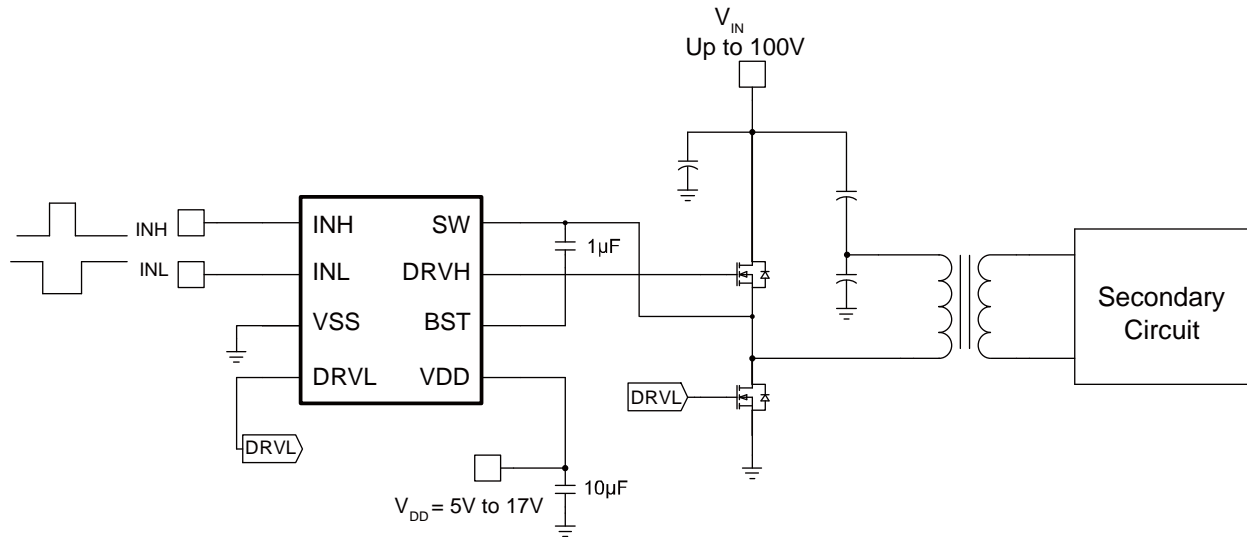

Figure 5: Typical Application Circuit (Half-Bridge Converter Topology)
In a half-bridge converter topology, the high-side MOSFET (HS-FET) and low-side MOSFET (LS-FET) are driven alternately with a dead time (DT) inserted between their respective on periods. INT and INL are driven with alternating signals via the pulse-width modulation (PWM) controller. The input voltage ( $V_{IN}$ ) can rise up to 100V when in a half-bridge topology (see Figure 5 in the Typical Application Circuits section on page 16).